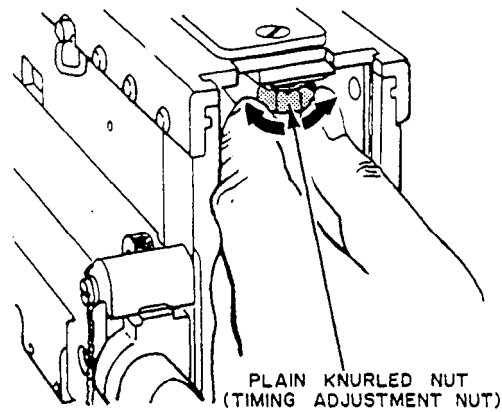

Figure 13-53.—Turning the trigger bar adjusting nut: Turn to the right to correct for late timing; turn to the left to correct for early timing.
3. Locate and turn the trigger bar adjusting nut one notch to the right (fig. 13-53).